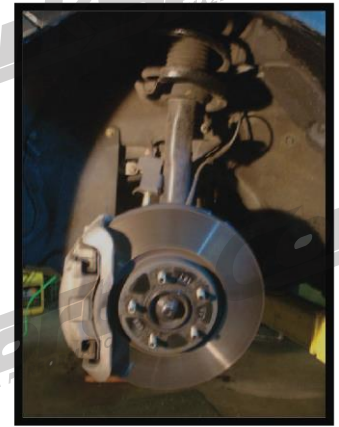

Figure 2a
a) Remove the front driver's side wheel from the vehicle using an impact wrench or 1/2" drive ratcheting wrench (or breaker bar) and 21mm socket (or other if using locking lug nuts). Your front wheel wells should now look like Figure 2a to the right.